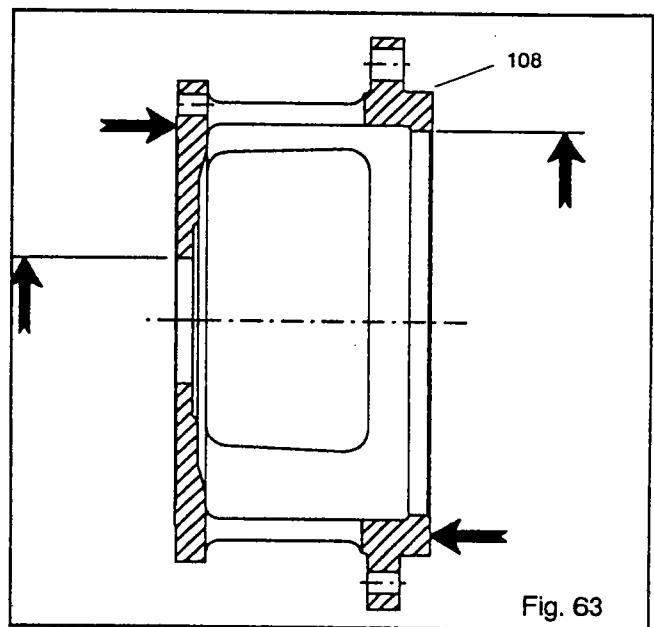

Fig. 63
1. Check frame adapter (108) for cracks or excessive corrosion damage. Replace if any of these conditions exist (Fig. 63).